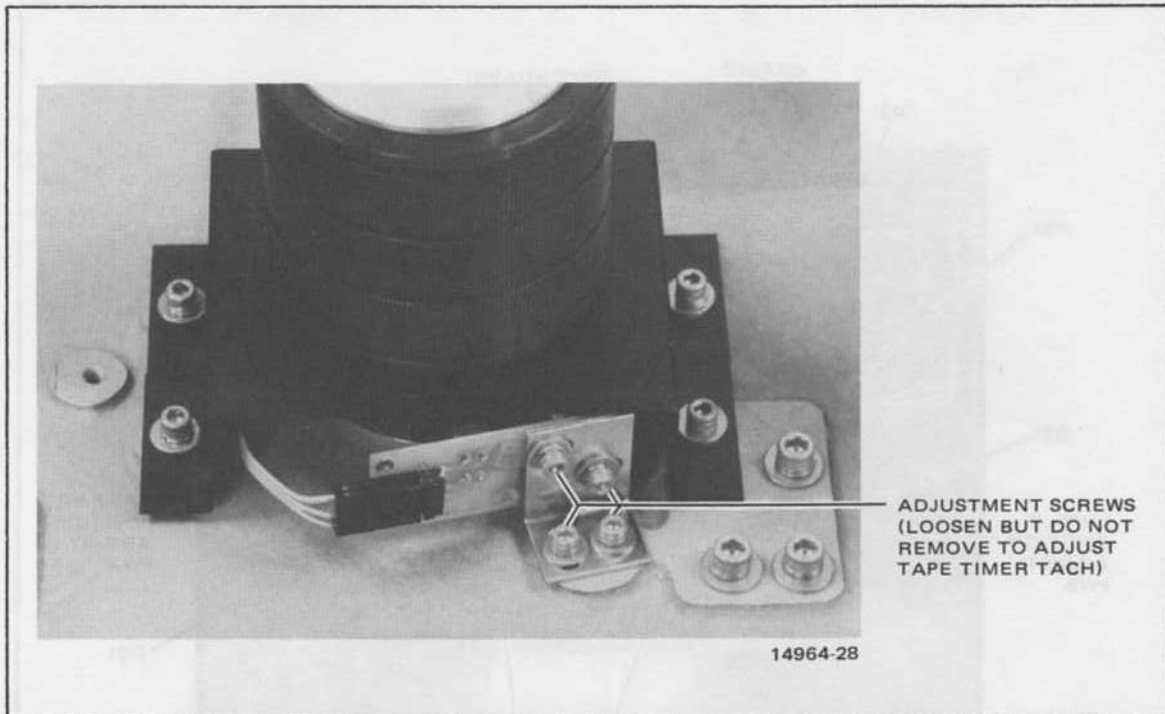

Figure 5-8. Tape Timer Tachometer Adjustment
- STEP 5 Loosen tape timer tach adjusting screws (Figure 5-8).